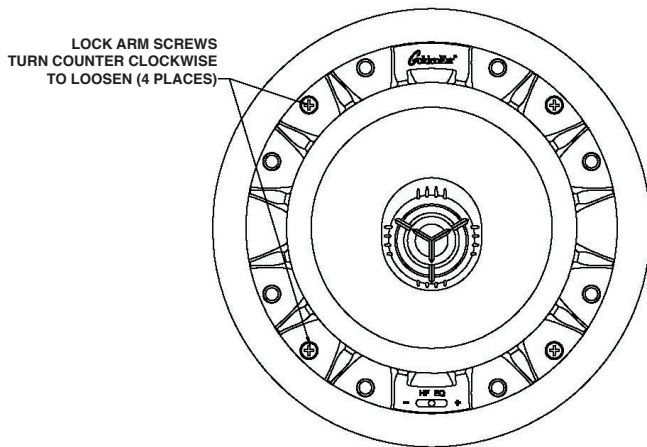

Figure 4
- Loosen the four rotating lock arms on the speaker by turning the arm screws on the front of the speaker counterclockwise  $\frac{1}{2}$  to 1 turn, just enough to allow the lock arm to move freely (Figure 4).